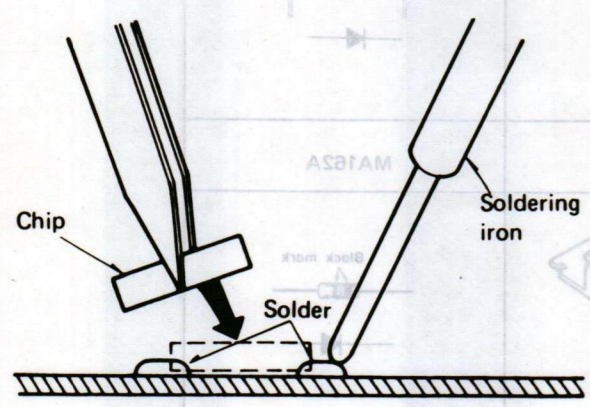

Fig. 11
- Remove chip with tweezers by rotating it while removing solder as shown in Fig. 11.